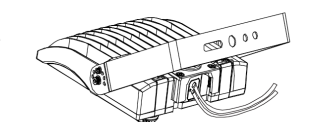

Fig. 10
2. Install two small set screws (Fig. 10).